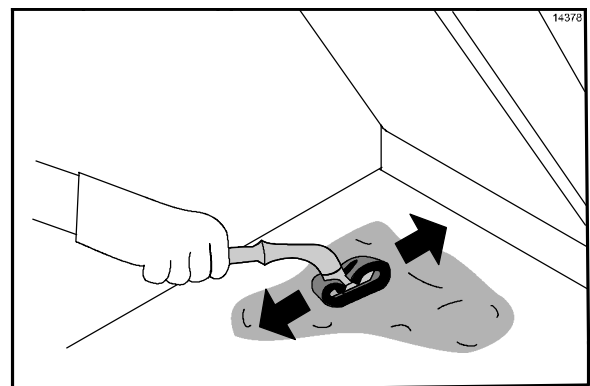

Figure 106
38. Spread the grill cleaner over the entire lower grill surface from front to back, using even strokes. **Do not scrub while applying product.** (See Figure 106.)